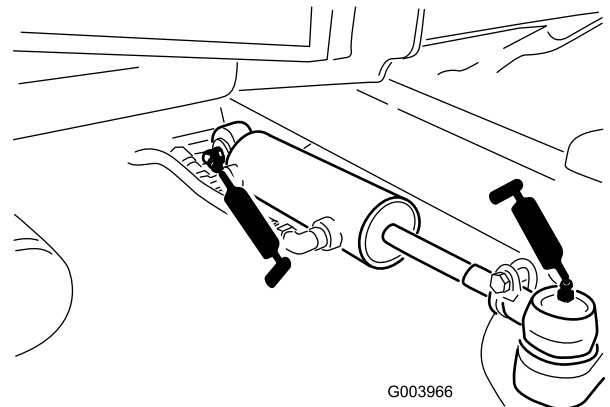

Figure 48
- Steering cylinder ball joints (2) (Figure 48)